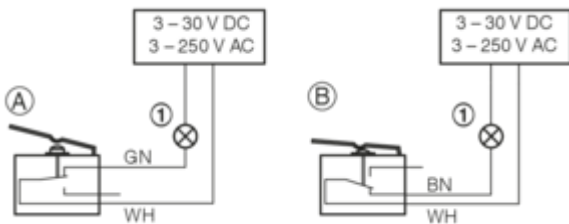

Fig. 54: Wiring of limit switches, example
- The limit switches must be connected according to the wiring example Fig. 54